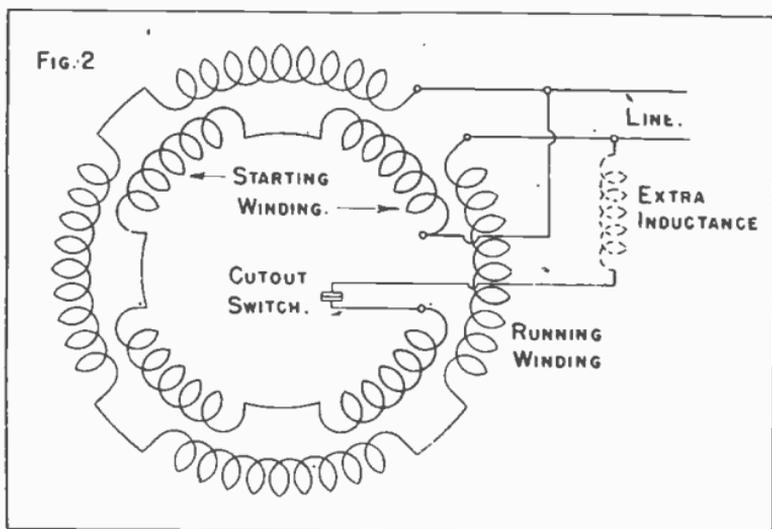
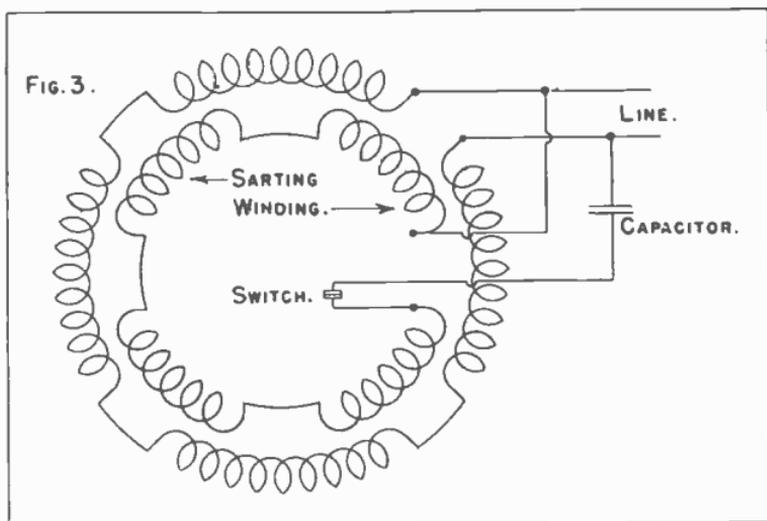
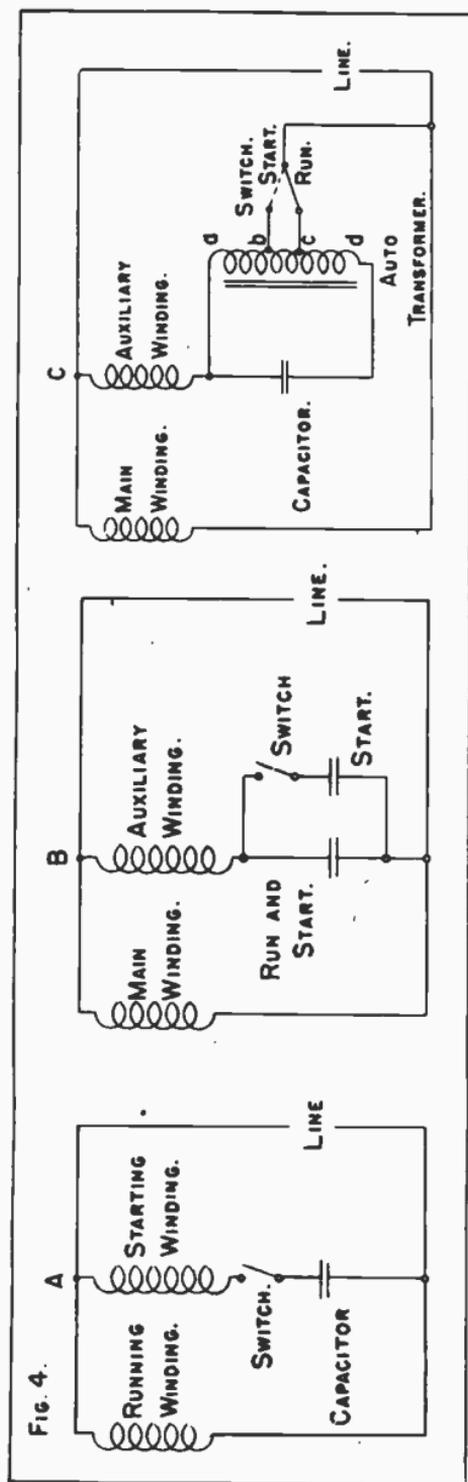

Fig. 2. Connections in a Split-phase Motor.
Fig. 3. Connections in a Capacitor-start Motor.
Fig. 4.
The split-phase motor has two stator windings as shown by Fig. 2. The running winding is connected across the line at all times while the motor is in operation. The starting winding is in circuit while the motor starts and until it comes nearly to running speed, then this winding is opened or disconnected from the line by an automatic cutout switch. The cutout switch usually is of a centrifugally operated type located inside the motor.
principle of the capacitor motors, which are of the split-phase type. Fig 3 shows how a capacitor may be connected in series with the starting winding instead of the extra inductance shown by Fig. 2. The capacitor and the starting winding are disconnected after the motor comes up to speed. This arrangement makes what is called a capacitor-start motor.
The connections for the capacitor-start motor which are shown in Fig. 3 are shown again at **A** in Fig. 4, here in a diagram that allows easier tracing of the circuits.
The diagram at **B** in Fig. 4 shows one variety of capacitor run motor, which means a split-phase motor that not only starts with capacitance in series with the starting winding, but which continues to run with capacitance in series with that winding and with the winding connected to the line. With the capacitor-run motor at **B** in Fig 4 we have two separate capacitors which are connected in parallel with each other and in series with the starting winding for starting. One of the capacitors is cut out by the automatic switch after the motor comes up to speed. Since both windings remain in circuit at all times we now shall call one the main wind-
Fig. 4. The Connections for (A) an Ordinary Split-phase Motor, (B) a Capacitor Run Motor with two Capacitors, and (C) with a Capacitor Run Motor with one Capacitor and an Auto-transformer.
At C in Fig. 4 is shown an arrangement that permits using only one capacitor yet retains the advantages of the two capacitors used at B. Between one side of the line and the auxiliary winding is an auto-transformer. With the automatic switch in the **start** position, current from the line goes through the switch to **b** on the transformer winding, then through the winding from **b** to **a**, through the auxiliary winding, and back to the line. Now the section of the transformer winding between **b** and **a** acts as the primary, while the entire winding from **d** to **a** acts as the secondary. The turns ratio between primary and secondary is a high one and the auto-transformer applies its high secondary voltage to the capacitor. This high voltage causes a large current to flow through the capacitor, this being the large current needed for starting the motor and bringing it up to speed.